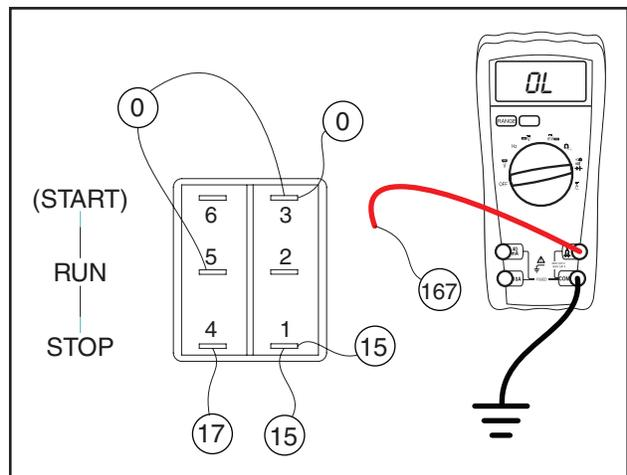

Figure 6-57. Check Wire 167
2. Disconnect Wire 167 from the Start-Run-Stop Switch (SW1). Connect one meter test lead to Wire 167 previously removed. Connect the other meter test lead to frame ground. See Figure 6-57. INFINITY should be measured.